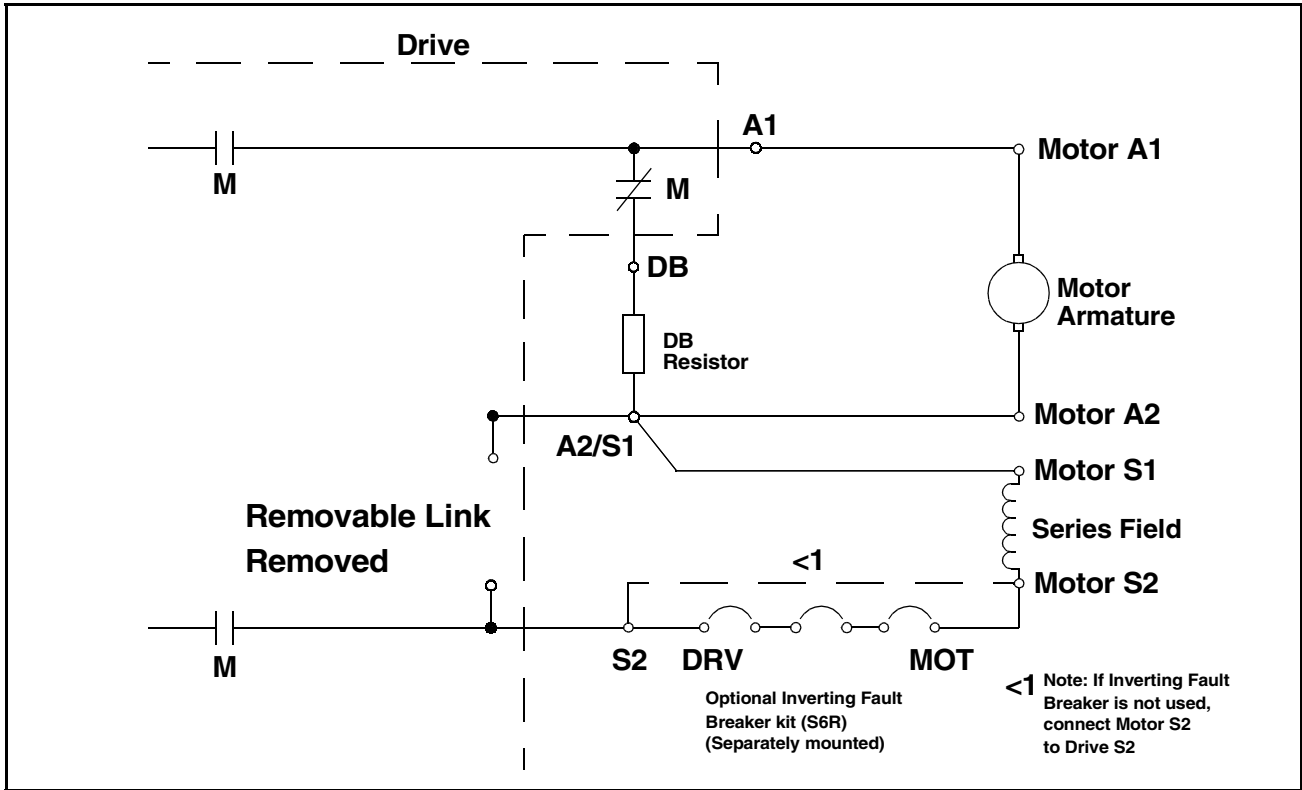

Figure 9 – DB with Series Field and Inverting Fault Circuit Breaker (S1 to A2/S2)
- DB with a Motor Series Field, S1 connected to A2/S1 *with* an Inverting Fault Circuit Breaker (figure 9)
- DB with a Motor Series Field, S1 connected to A2/S1 *without* an Inverting Fault Circuit Breaker (figure 9)
- Step 1. Follow the wiring diagram in figure 9 to connect the motor armature and the Dynamic Braking Resistor assembly to the FlexPak 3000 drive.
- Step 5. Route the resistor assembly harness as required. Use M10 x 25 mm screws, nuts and washers to attach resistor assembly harness to DBR and A2/S1 connections on the drive. See figure 9.
- Step 1. Follow the wiring diagram in figure 9 to connect the motor armature and the Dynamic Braking (DB) Resistor assembly to the FlexPak 3000 drive.
- Step 6. Connect the S2 terminal to Motor S1 terminal; see the dashed-line in figure 9. Ignore the Inverting Fault Circuit Breaker illustrated in this figure.